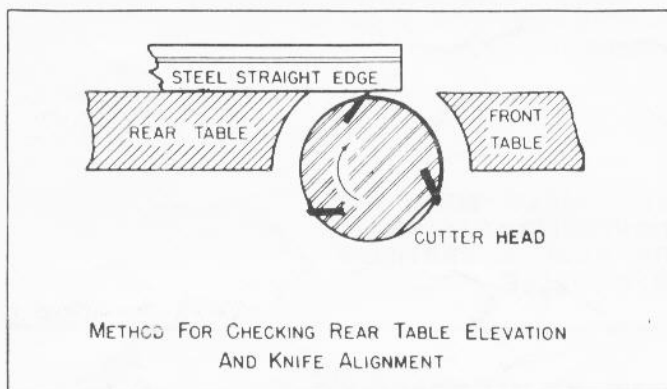

Fig. 24
3. Place a straight edge on the rear table, extending over the cutterhead as shown in Fig. 24.